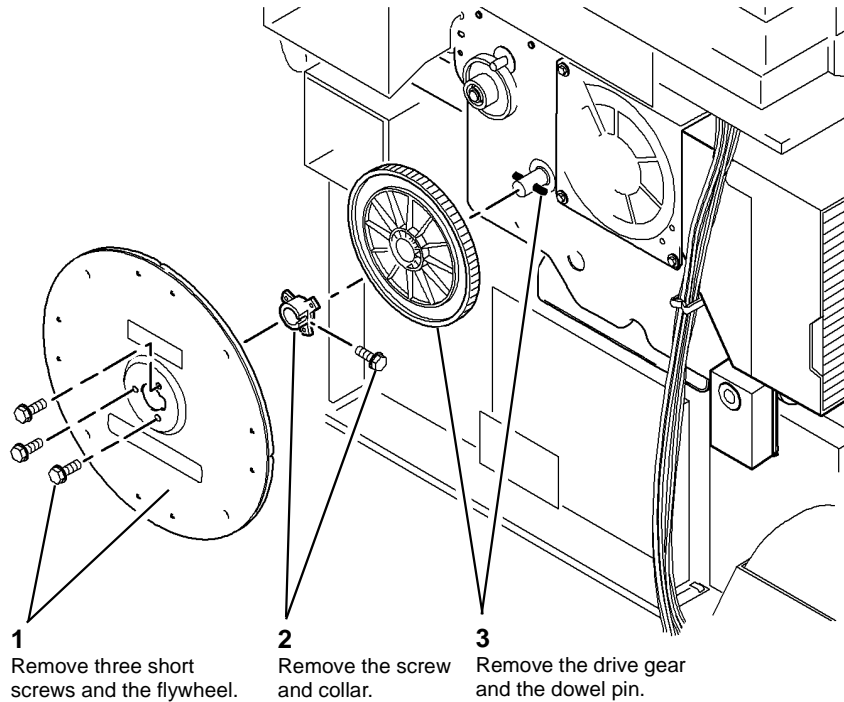

Figure 1 Photoreceptor drive gear
2. Remove the photoreceptor drive gear, Figure 1.